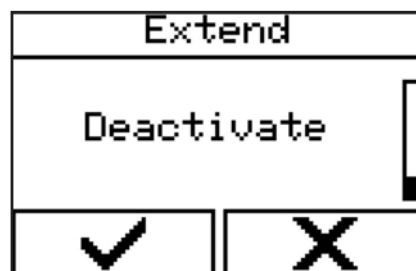

Figure 113 - Deactivating collision detection
5. Select 'Deactivate' for the selected direction of travel (Figure 113).